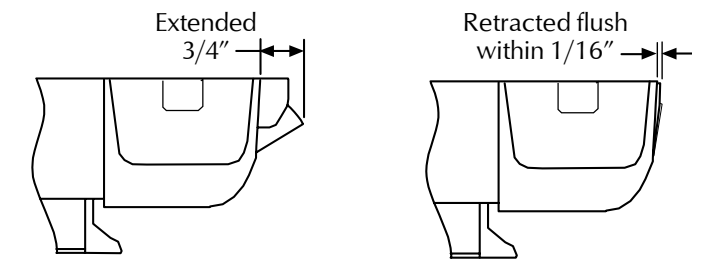

Figure 3
2. Depress pushbar and make sure latch bolt(s) retract and extend fully (see Figure 3).
4. Check latch bolt(s) for full retraction. Must clear strike (see Figure 3).
5. Release solenoid and check latch bolt extension (see Figure 3).